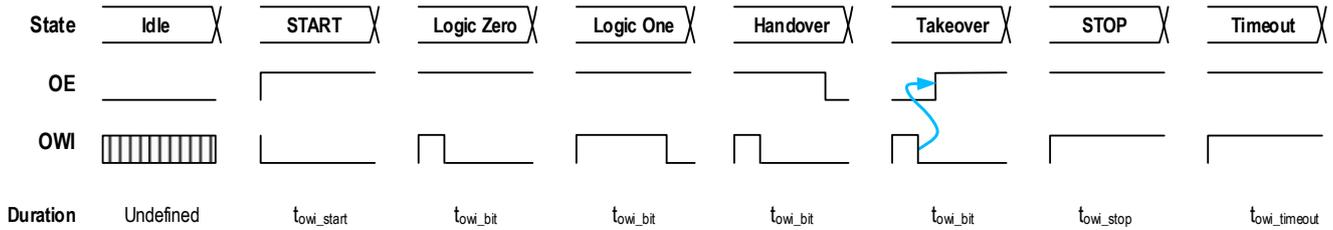

Figure 4. OWI ZMID4200 Protocol Elements
- Figure 4. OWI ZMID4200 Protocol Elements5
Figure 4 illustrates these ZMID4200 OWI elements with the associated output enable (OE) and OWI signals. Note that Figure 4 is not to scale. The actual timings are specified in section 3.